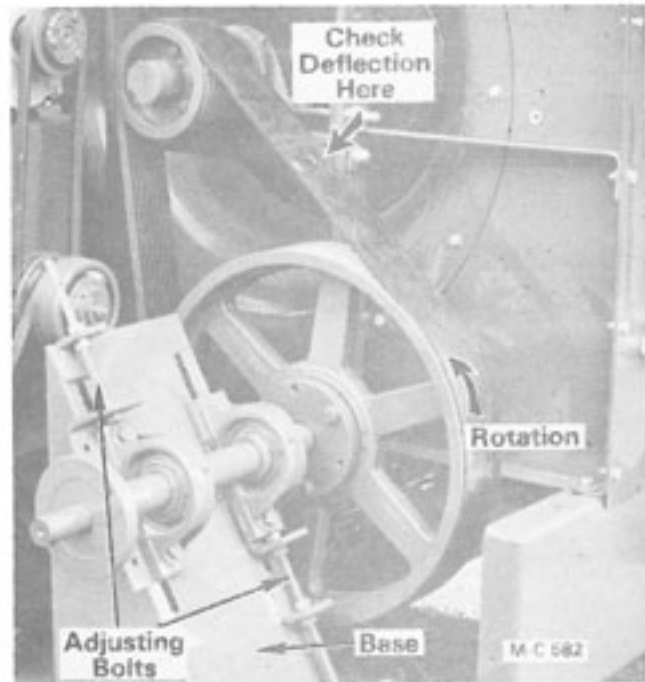

Figure 33 - PTO Side Drive
2. Loosen the locknuts on the adjusting bolts. Turn the nuts on the adjusting bolts to move the jack shaft and bearings down to increase belt tension, see Figure 33.